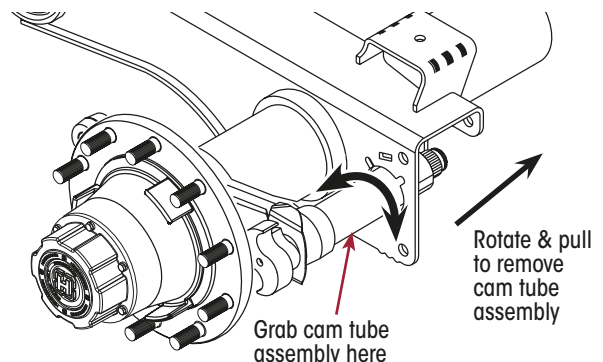

Figure 68: INTRAAX Cam Tube Assembly Removal
3. Pull the cam tube assembly free from the spider (use a back-and-forth rotating motion) and slide it out through the mounting hole in the suspension beam (Figure 68).